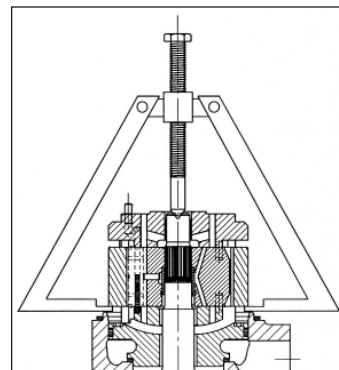

Figure 64
4. Disassemble the cartridge / front cap with an extractor (Fig. 64).